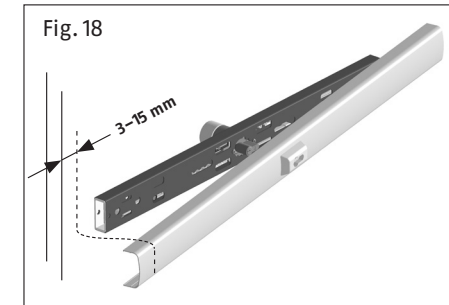

Fig. 18
1. Close the door, hold the cover onto the lock body and first mark and make a cut of 3-15 mm on both sides according to the door frame width, z.B. with a metal saw (Fig. 18).